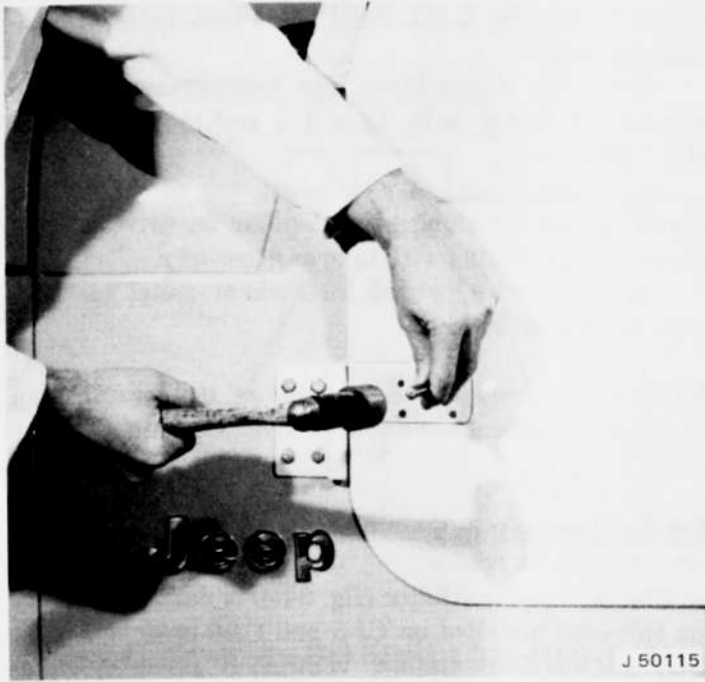

Fig. 2-23 Marking Locations for Lower Hinge Female-Half Hole
(2) Drill 9/32-inch hole through door at one of hole locations. Fasten upper male-half hinge to door with bolt and locknut.
(3) Check door alignment and remaining hole locations for proper placement. Drill remaining holes and install bolts and locknuts.
(4) Fit lower female-half hinge onto lower male-half hinge attached to door. Hold doors in proper position, use lower female-half hinge as a template, and mark hole locations on body (fig. 2-23).
(5) Drill 9/32-inch hole through body at one location and fasten lower female-half hinge with bolt and locknut.
(6) Check door alignment and remaining hole locations for proper placement. Drill remaining holes through body and install bolts and locknuts.
(7) Install doors.